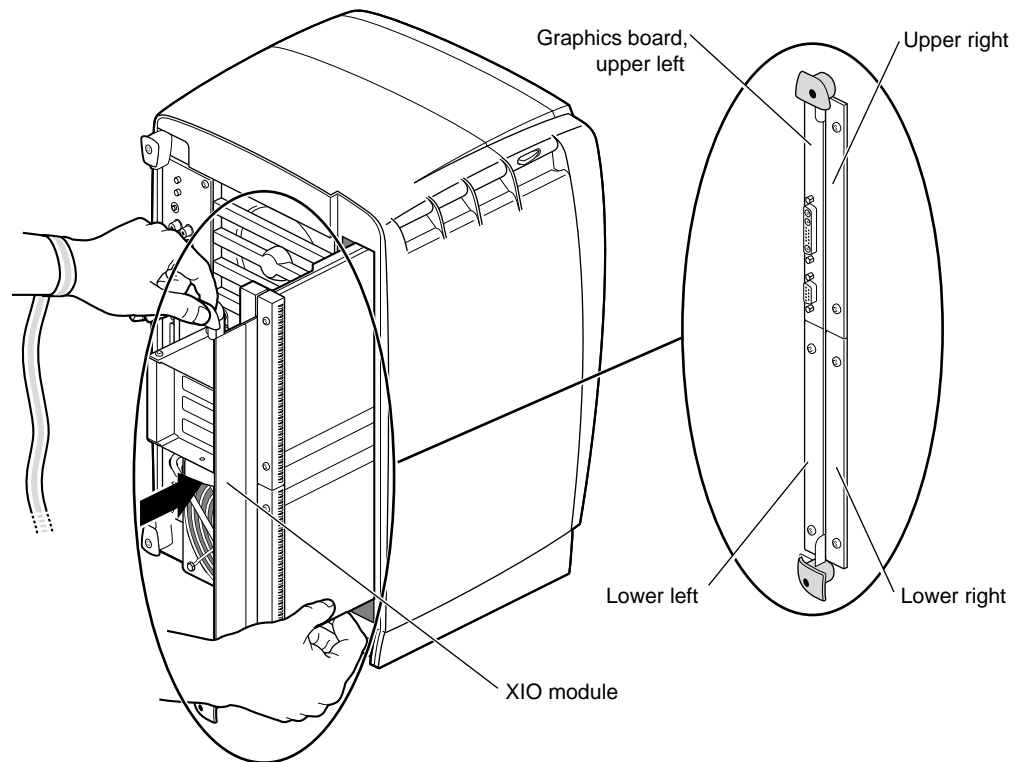

Figure 2-21 Positioning the XIO Module
2. Before you insert the XIO module, make sure the handle portion protrudes in a locked position from the I/O panels, as shown in Figure 2-21.
If the handles are flush with the I/O panels, the XIO module stops during insertion. Pull out the handles until the handle portion of the XIO module looks like Figure 2-21.